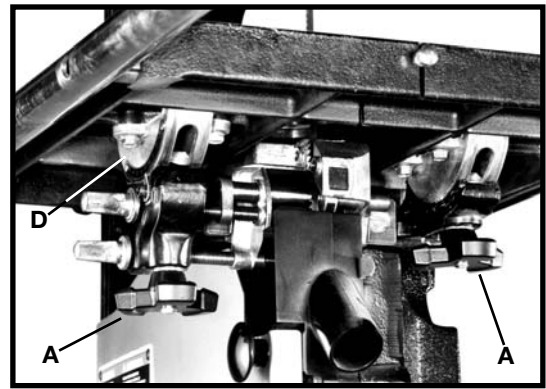

Fig. 20
1. The table on the band saw can be tilted 45 degrees to the right and 10 degrees to the left. To tilt the table to the right, loosen the two locking knobs (A) Fig. 20, tilt the table to the desired angle as shown on the scale (D) Figs. 20 and 21, and tighten two locking knobs (A).
2. To tilt the table (C) Fig. 21 to the left, loosen the two locking knobs (A) Fig. 20, and tilt the table to the right until access to the table stop (A) Fig. 21 is gained. Remove the table stop (A) Fig. 21, and tilt the table to the left 10 degrees. Tighten the two locking knobs (A) Fig. 20.